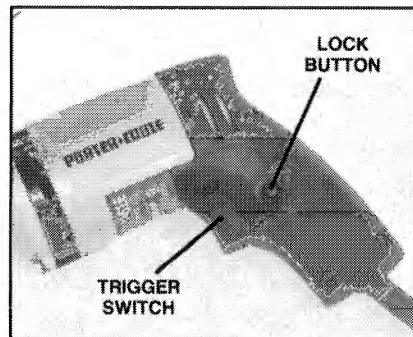

Fig. 2
1. Squeeze trigger switch (Fig. 2) to start motor. Release trigger switch to stop motor.
2. A lock button (Fig. 2) is provided to keep motor running without holding the trigger switch ON.